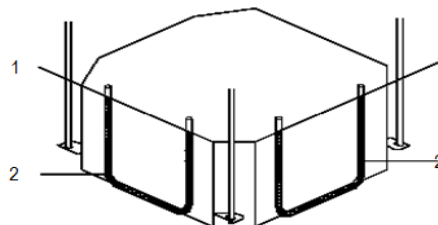

Fig. 9 - Ensure unit is level
- b. Check if the unit is level at all four corners with a water level or a water-filled vinyl tube (see Fig. 9).